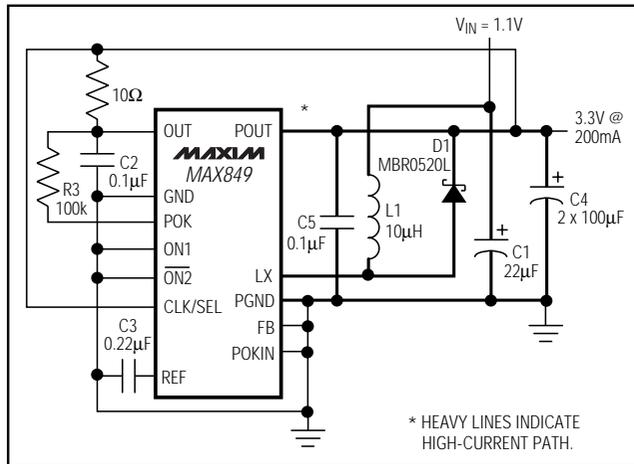

図2. 3.3V固定出力
**Note 5:** Start-up is tested with Figure 2's circuit. Output current is measured when the input and output voltages are applied.
**Note 7:** When  $V_{CLK/SEL} = 0V$ , the inductor is forced into constant-peak-current, discontinuous operation. This is guaranteed by testing in Figure 2's circuit.
す)。図2に、高出力PWMモード設定時のMAX849の標準的なアプリケーション回路を示します。